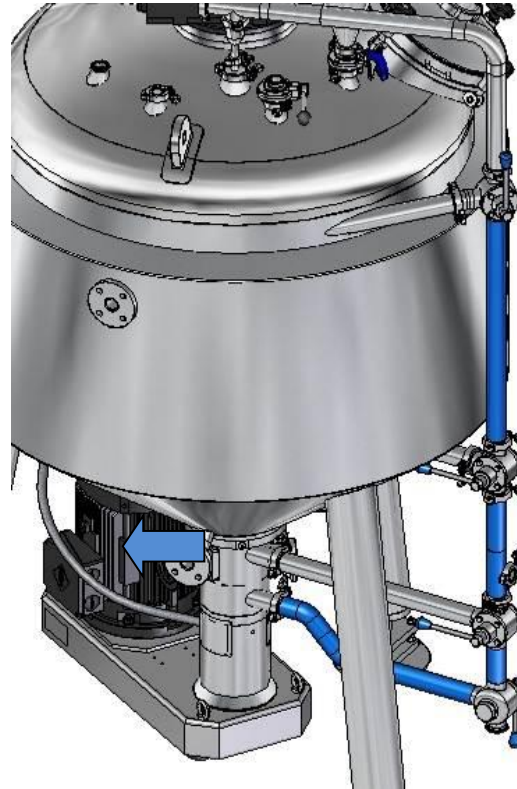

Fig 6.1. Circulation with upper shearing
- Circulation with upper shearing (Fig 6.1)